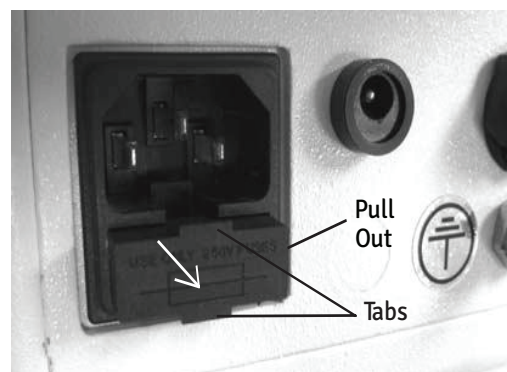

Figure- 29 Pull Out Fuse Door
3. Open the Door to the Fuse Holder by pulling it down. Refer to figure-29.